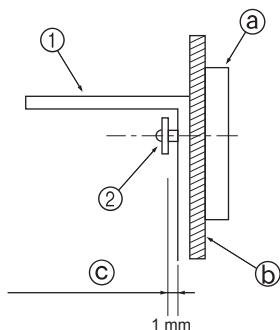

Fig. 3-4
- First, mount the bracket on the wall and then tighten the screw so that the bracket can slide up and down. (Fig. 3-4)
- ① Tip-over prevention bracket
- ② Tapping screw